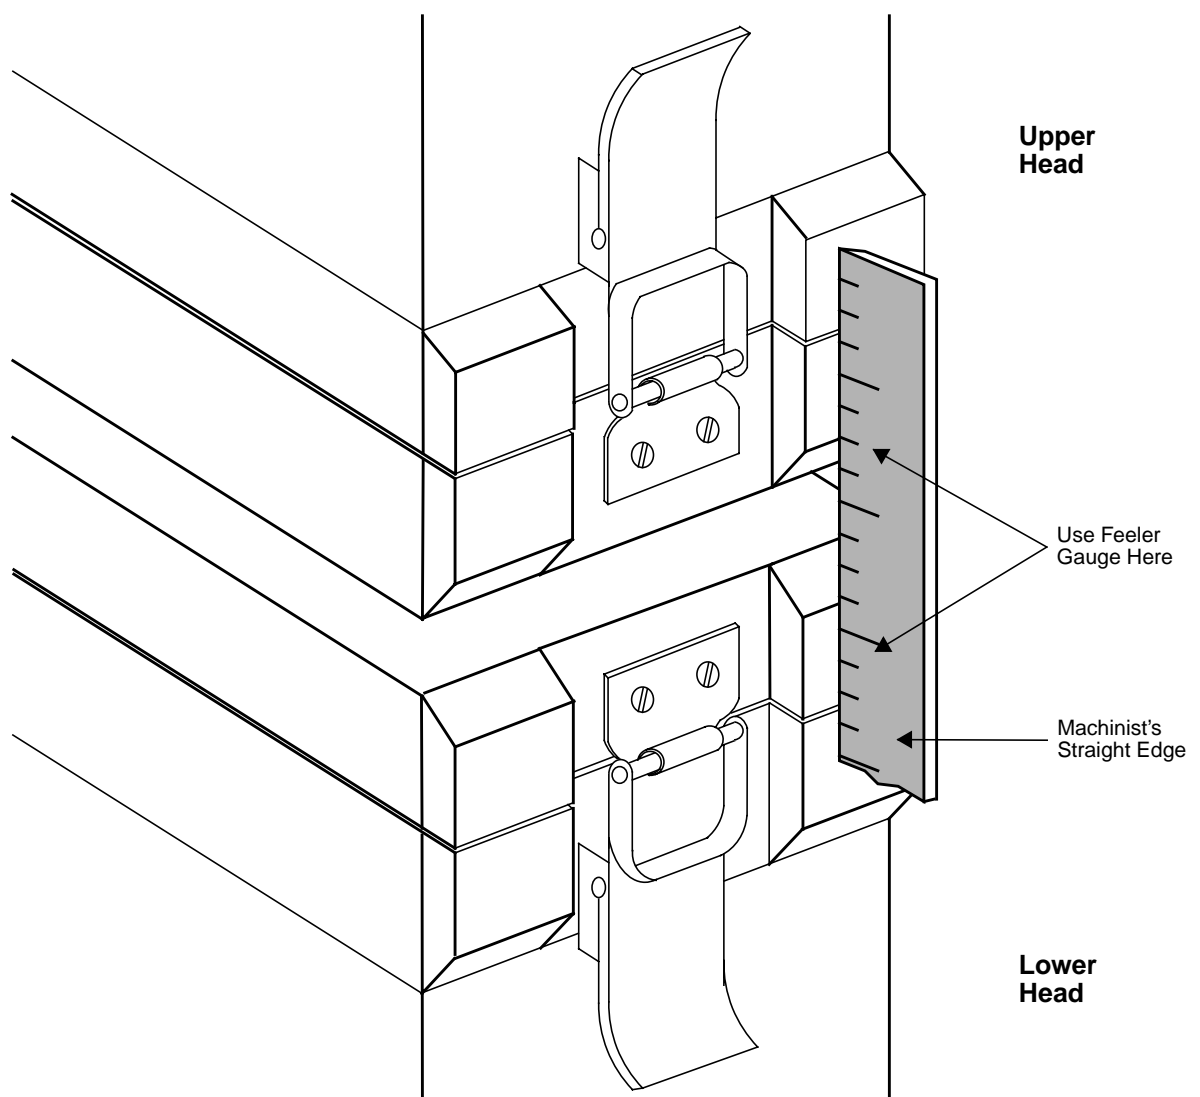

Figure 3-17 Scan Direction Optimum Alignment Point
2. Apply a straight edge and feeler gauge to the machined surface on the upper and lower sensor heads. Refer to Figure 3-17.